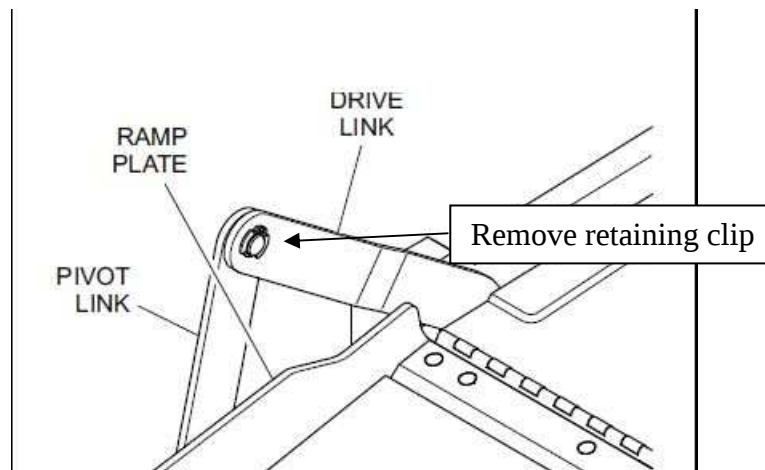

Figure 7: Drive link/Pivot link
- b. Disconnect the drive link from the pivot link on the ramp plate. Figure 7.